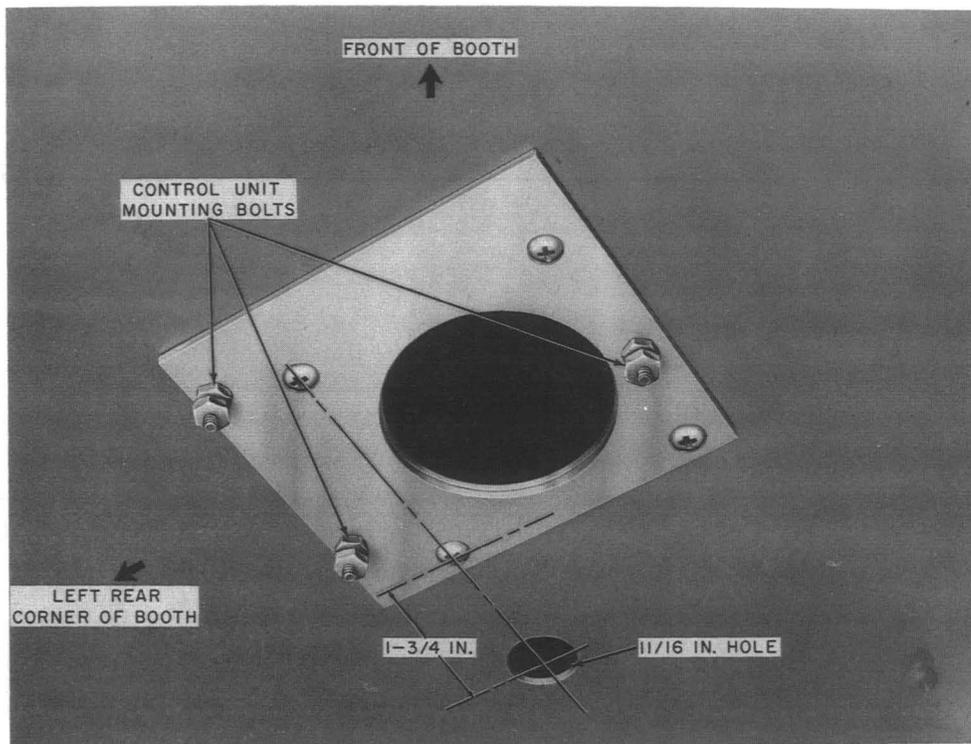

Fig. 15—Installation of Adapter Plate to Ceiling of KS-16797 Booth
- (f) Secure light control adapter plate on ceiling where cord plate was removed (Fig. 15).
- (g) Locate and drill one 11/16-inch diameter hole in the ceiling as shown in Fig. 15.